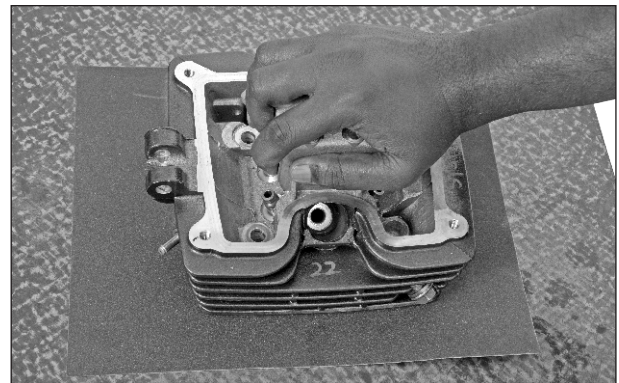

Fig. 3.58
- After cleaning the liquid gasket from the surface of the cylinder head complete, inspect the surface for any scratches, high and low spots. If noticed, remove them using a fine emery paper (400 grade) placed over the surface plate. (Fig. 3.58)